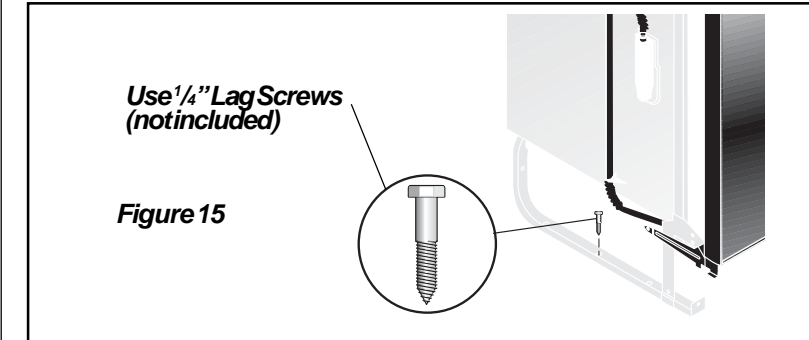

Figure 15
- Screw 1/4" lag screws, (not included), through holes provided in frame rail. See **Figure 15**.